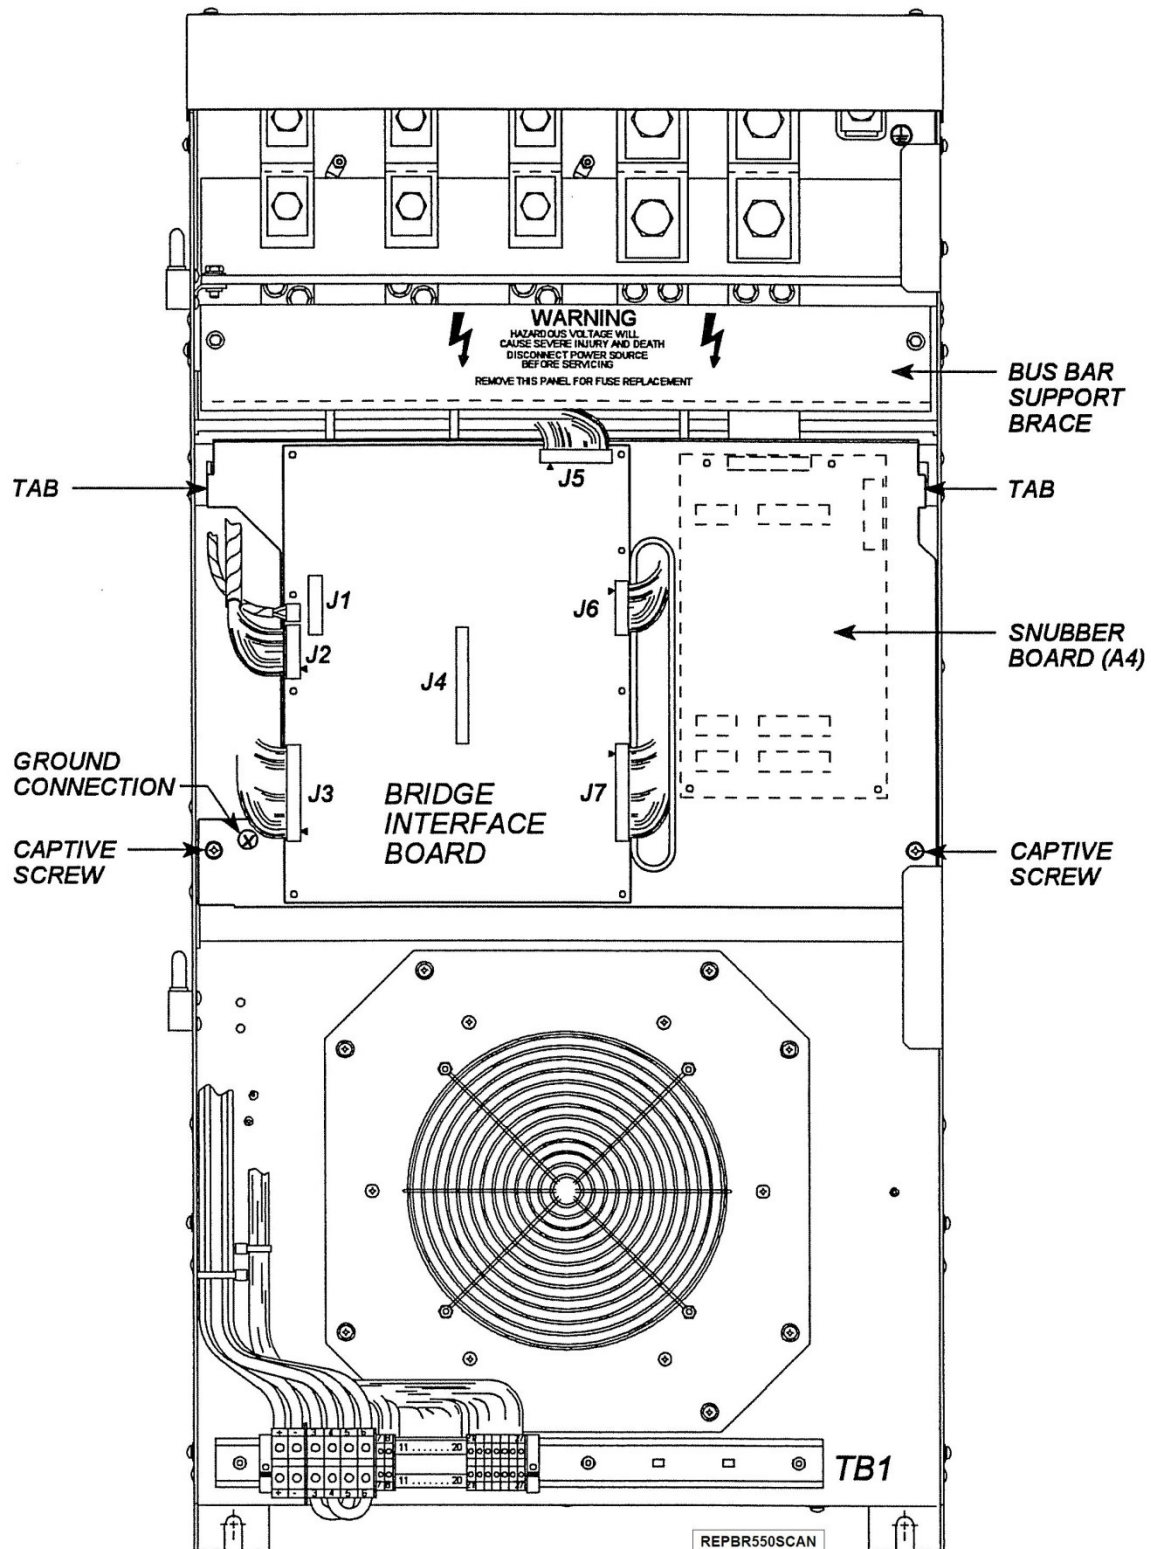

Figure 7-3. Replacing Bridge Interface Board (550 ADC)
7.3.3 REPLACING BRIDGE INTERFACE BOARD (A3) AND SNUBBER BOARD (A4) (550 ADC) (Refer to Figure 7-3.)
5. Remove all cables from the bridge interface board (see Figure 7-3).